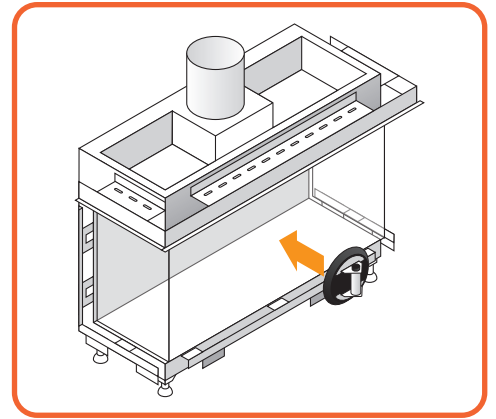

Figure 10.7 - Put on the front window
- Put the section cup on the glass and make sure it is properly vacuumed, so it will not come off. (See *Figure 10.7*)